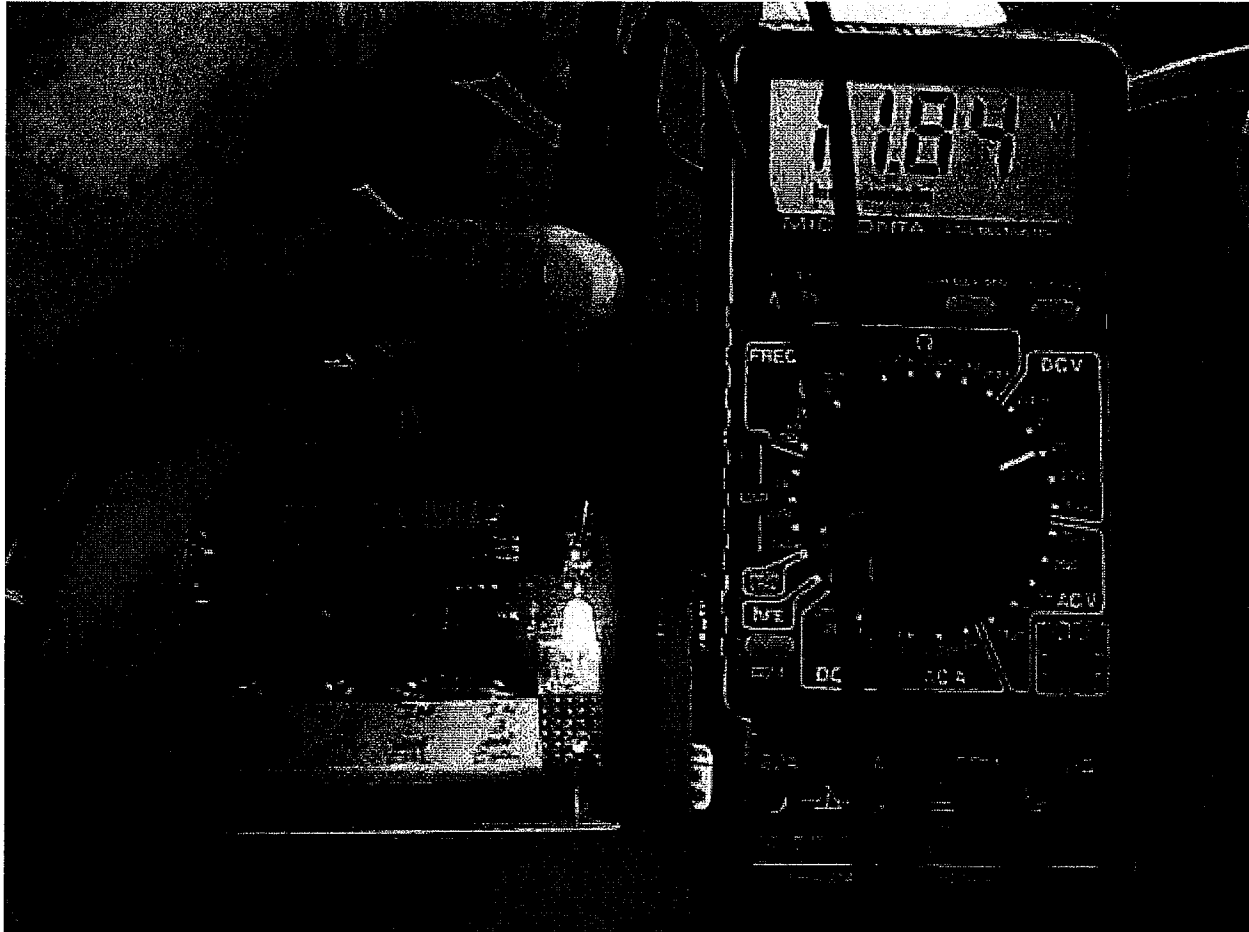

Figure 10
- 9.4.8.2 Verify that voltage out of I/O port is 11.80 +/- [redacted] by measuring DC voltage into regulator. Black probe of multi-meter to tab of LM7805 regulator, Red probe to input pin. See Figure 10 for details.